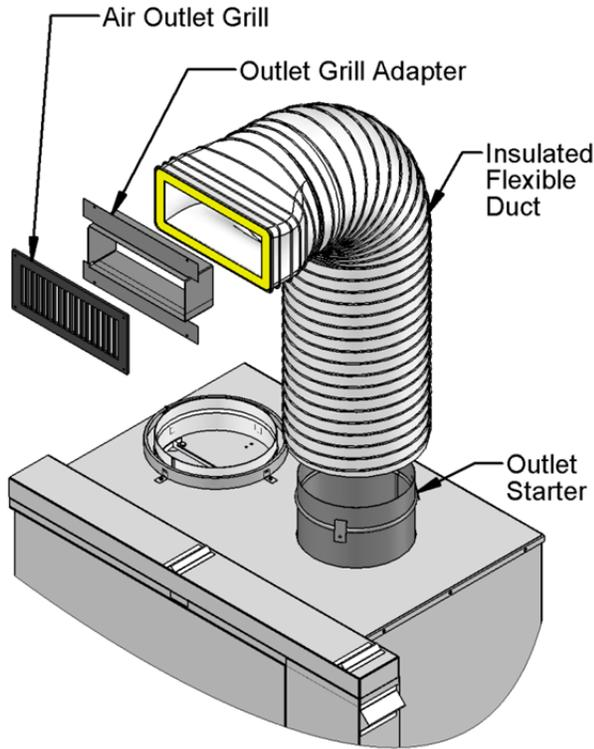

FIGURE 13 HRS AIR OUTLET GENERAL INSTALLATION
Refer to Figure 13 to identify the various parts.
1. Attach the round end of the insulated flexible duct (K) to the HRS outlet starter on the fireplace (see Figure 13). Ensure the insulated flexible duct completely covers the HRS outlet starter protruding above the top of the fireplace. Using three of the self-tapping screws with three flat washers provided (G), screw through the insulated flexible duct to attach it to the HRS starter.